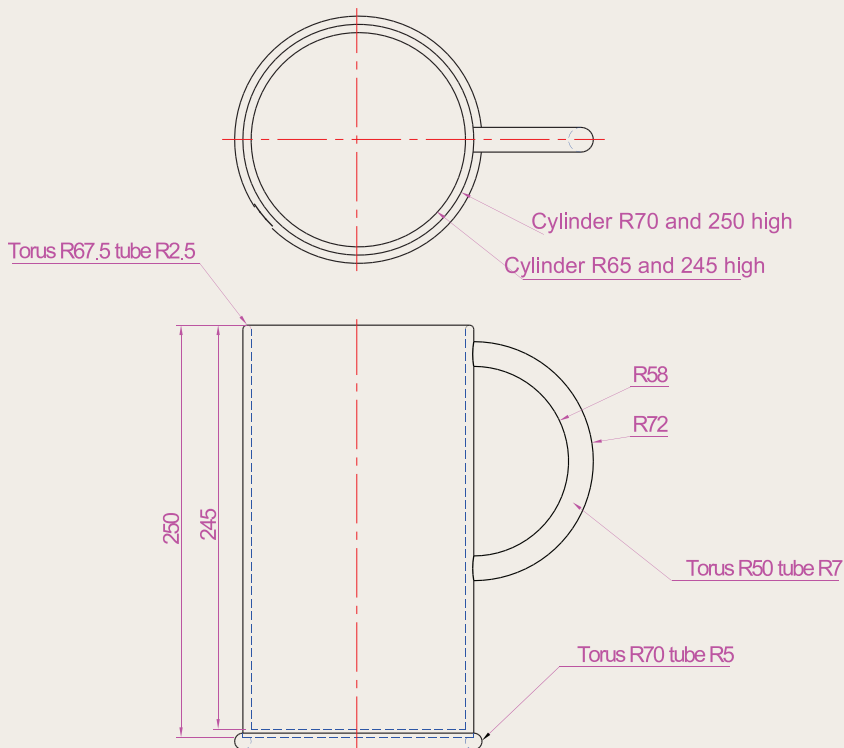

Fig. 14.49 Exercise 4
4. Construct a solid of revolution of the jug shown in the orthographic projection (Fig. 14.49). Construct a handle from an extrusion of a circle along a semicircular path. Union the two parts. Place the 3D model in a suitable isometric view and render.